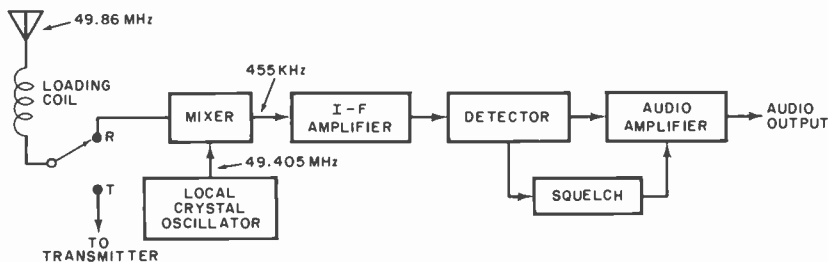

Fig. 2. Block diagram of superheterodyne receiver.
**Some Design Ideas.** The simplest transceiver you can design would employ a superregenerative detector, crystal-controlled oscillator, and an audio amplifier that doubles as the modulator when transmitting, as illustrated by the block diagram in Fig. 1. A more elaborate transceiver would employ a superheterodyne receiver, as shown in the block diagram of Fig. 2. Alternatively, you could design a five-channel w-t with a crystal for each of the five channels and a switch.